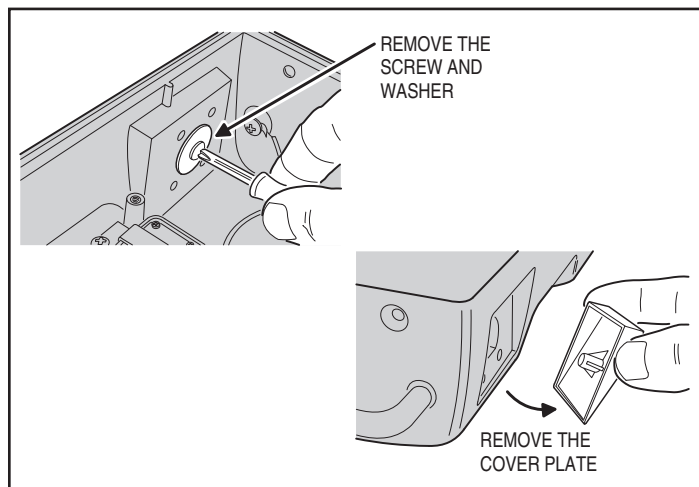

Figure 19. Removing the Keyswitch Hole Access Plate
2. Remove the screw and washer that retain the keyswitch hole access plate (see Figure 19).